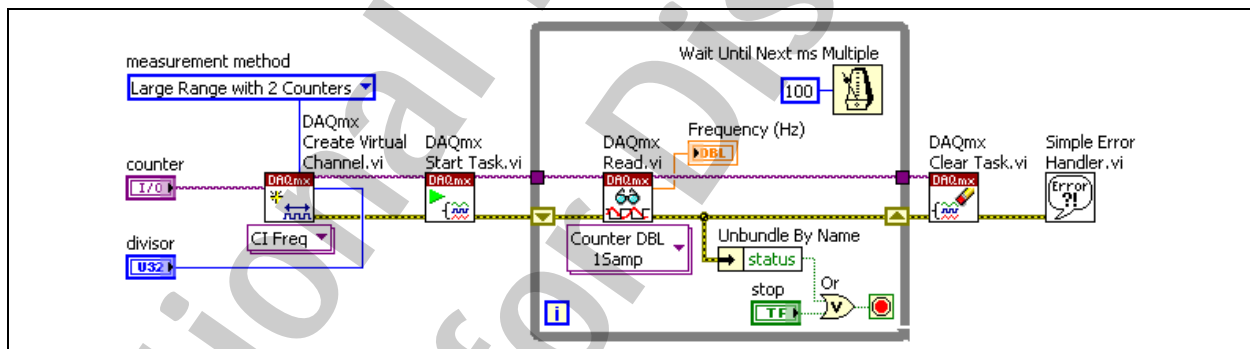

Figure 6-17. Frequency Measurement - Large Range with 2 Counters VI Block Diagram
3. Modify the block diagram to use the Large Range with 2 Counters method for acquiring frequency, as shown in Figure 6-17, by modifying the following item: